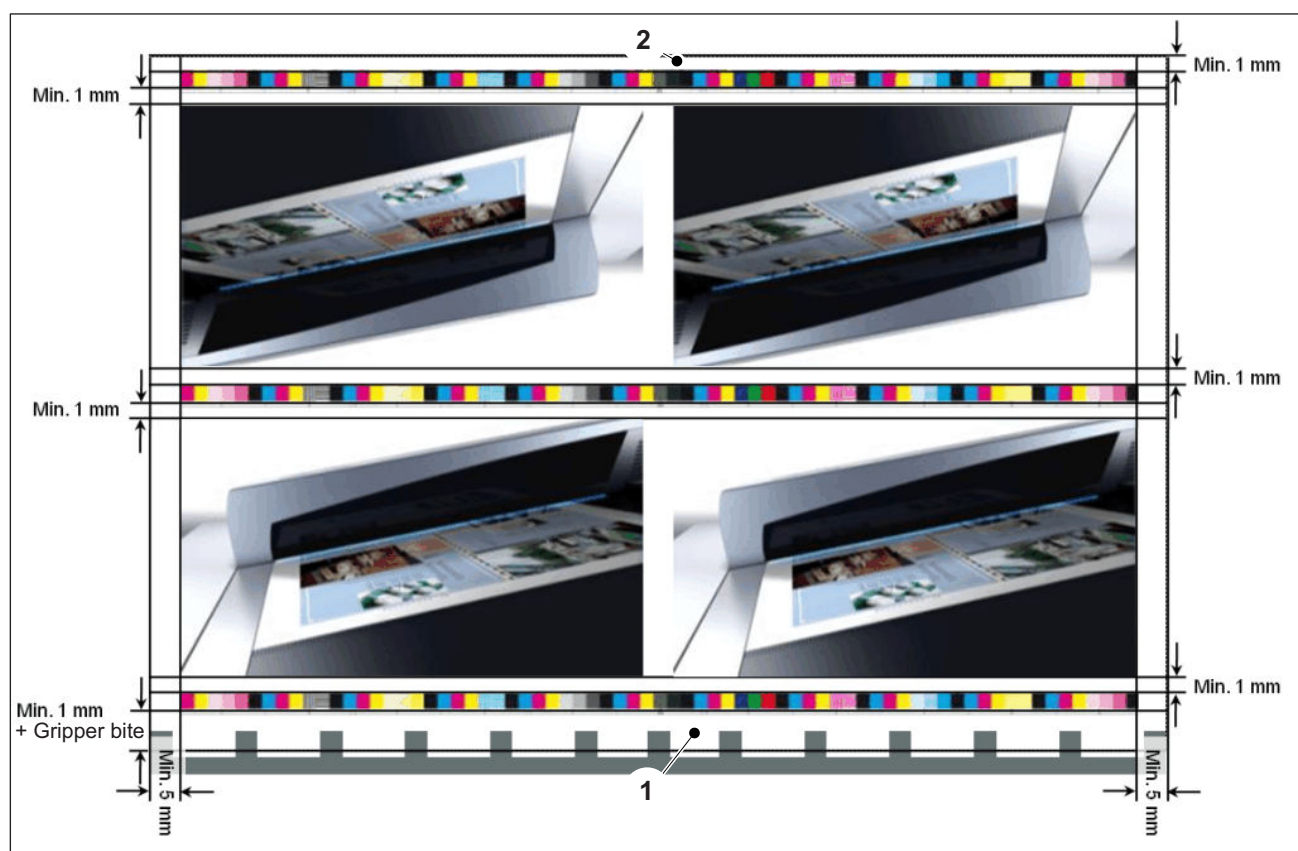

Fig. 22 Mounting Prinect Inpress Control
- You can mount the quality control strip at any position you wish between the gripper margin (Fig. 22/1) and the rear edge of sheet (Fig. 22/2).